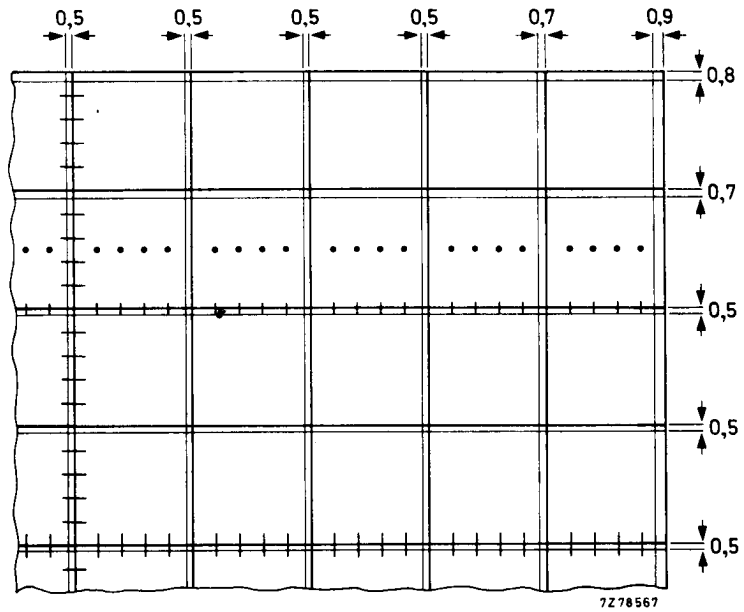

Fig. 6 Quarter of graticule with horizontal and vertical line pairs, see note 6.
6. A graticule consisting of horizontal and vertical line pairs according to Fig. 6, is aligned with the electrical x-axis of the tube. With optimum corrections applied (including orthogonality correction), any horizontal or vertical trace will fall between these line pairs.